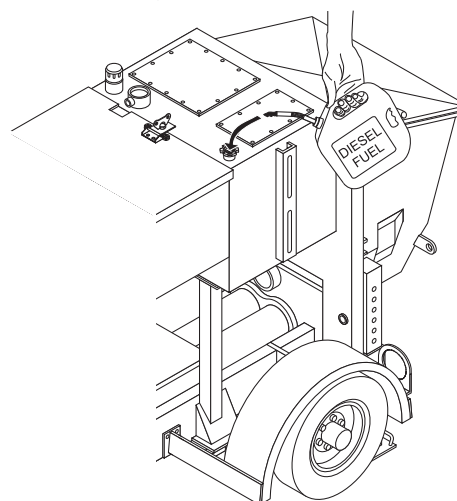

Figure 9. Adding Diesel Fuel
2. If fuel is low, remove fuel filler cap and fill with **#2 diesel fuel** (Figure 9).